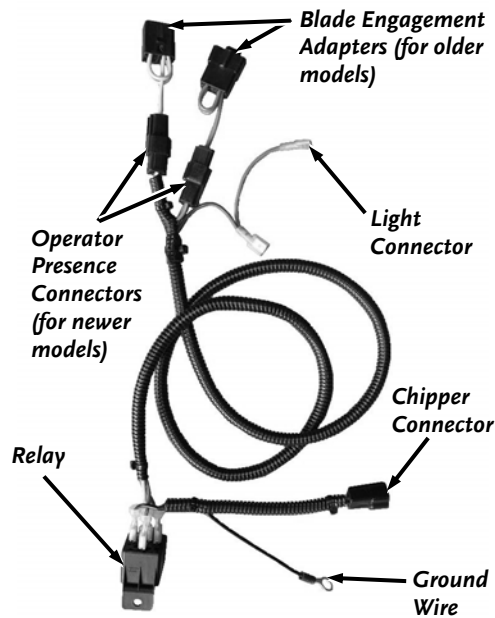

Figure 13
1. Examine the Chipper Wire Harness and identify the connections (**Figure 13**).
Note: If you have the older style machine (**Figure 15 on next page**), the Blade Engagement Adapters (**Figure 13**) must stay on the Chipper Harness. If you have a newer machine with the Operator Presence Connector (**Figure 14**) then the Blade Engagement Adapters of the Chipper Harness are not needed.
2. Remove and discard the two Blade Engagement Adapters from the Chipper Harness (**Figure 13**).